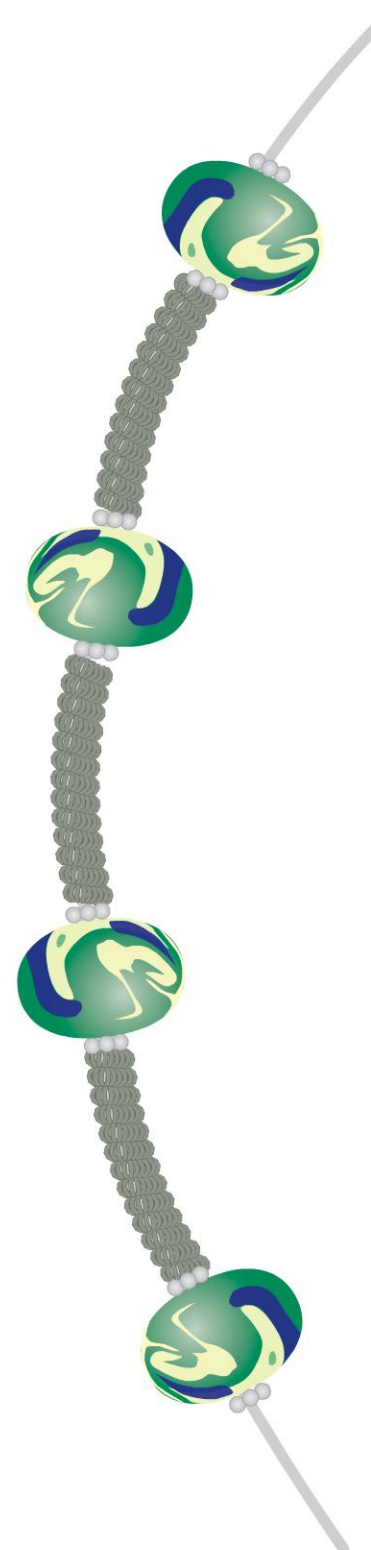

figure 2
- 6 Use the remaining 18" (45.7 cm) of 18-gauge wire to string 1 daisy spacer, 1 rondelle bead, 1 daisy spacer, and one coil; repeat three times, alternating the rondelle bead with a lentil bead in the second sequence. String 1 daisy spacer, 1 lentil bead, and 1 daisy spacer (Figure 2). Place low-stick tape on one side of the bracelet to keep the components from sliding off. Set aside.